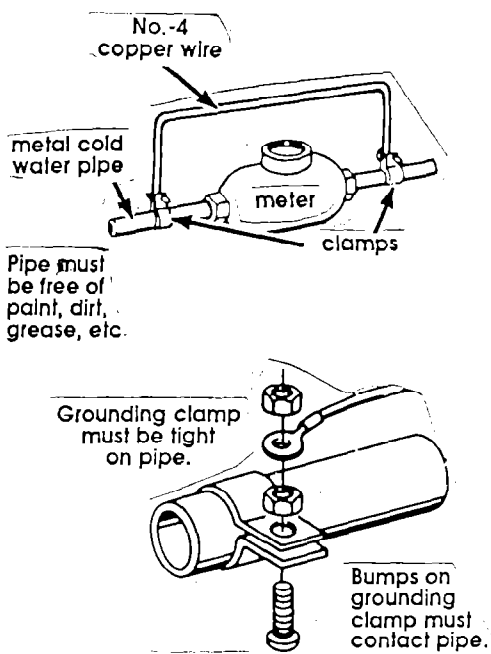

Figure 1
If the recommended grounding method is impossible—connect a separate, grounding wire (No.-16 minimum) to the green, grounding screw inside the range hood terminal box. Connect the other end of the separate grounding wire to a grounded, metal cold water pipe. ** (See Figure 1.)
Do not ground to a gas supply pipe or hot water pipe. Do Not connect to electrical supply until appliance is permanently grounded. (See Figure 1.)
**Grounded, metal cold water pipe must have metal continuity to electrical ground and not be interrupted by plastic, rubber or other electrical insulating connectors such as hoses, fittings, washers or gaskets (including water meter or pump). Any electrical insulating connector should be jumped, as shown, with a length of No.-4 wire securely clamped to bare metal at both ends. (See Figure 1.)